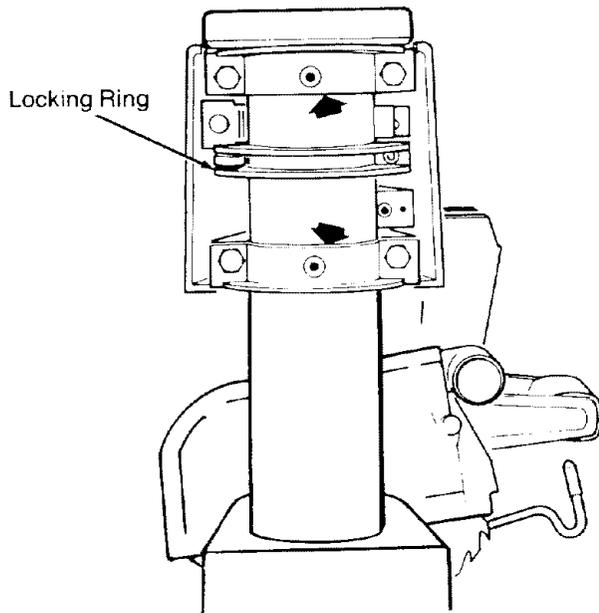

Fig. 123 - Bearing Points Where Arm Attaches to Column Tube
•Lubricate the bearing points where the *arm* attaches to the *column tube*. With a #2 Phillips screwdriver remove two screws and the rear arm cover for access to these points. Be careful not to get lubricant on the *locking rings* as this will adversely affect the miter locking function. (Figure 123)